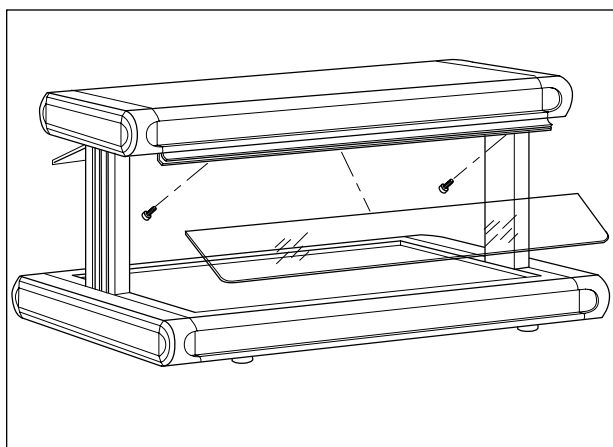

Figure 5. Installing Breath Protector
3. Install thumbscrews into channel, through acrylic and then tighten screws until snug. See Figure 5.